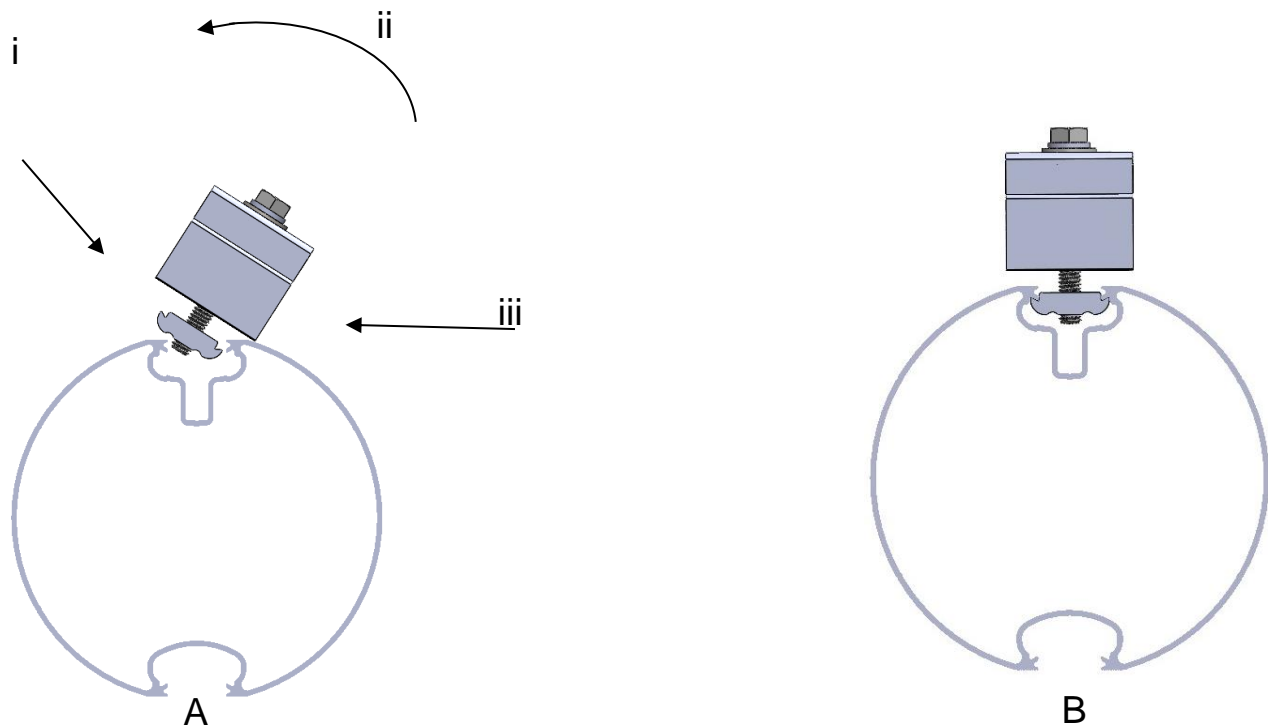
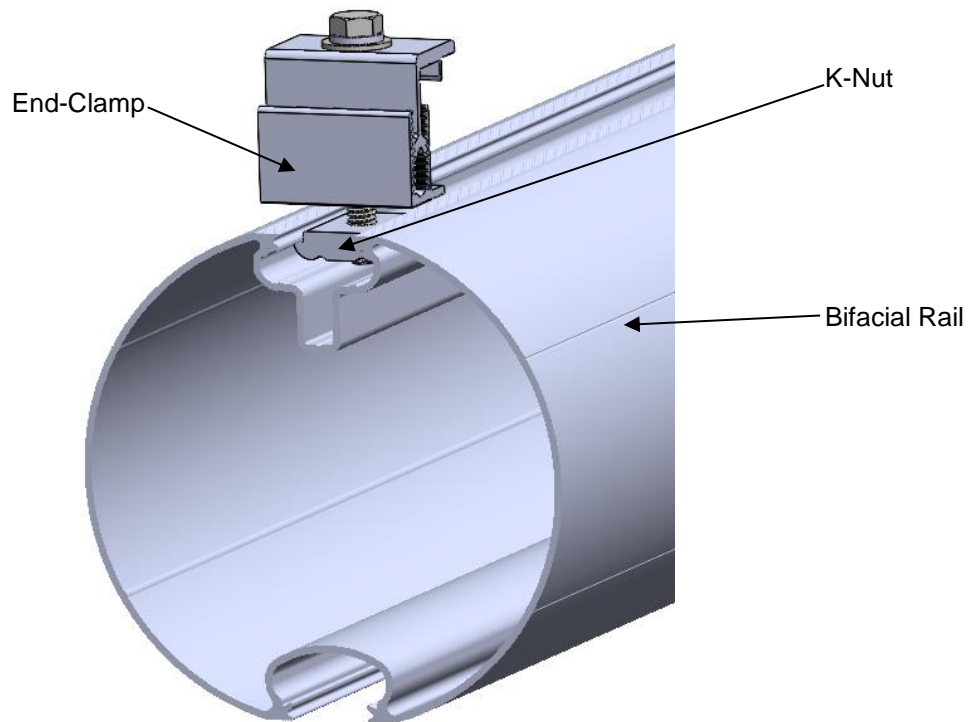

Figure 19: Inserting K-Nut into Bifacial Rail (End Clamp Shown)
Figure 20: End-Clamp and Bifacial Rail
- iii. Drop into place. The inserted component should easily slide back and forth in the channel see Figure 19 B and Figure 20.